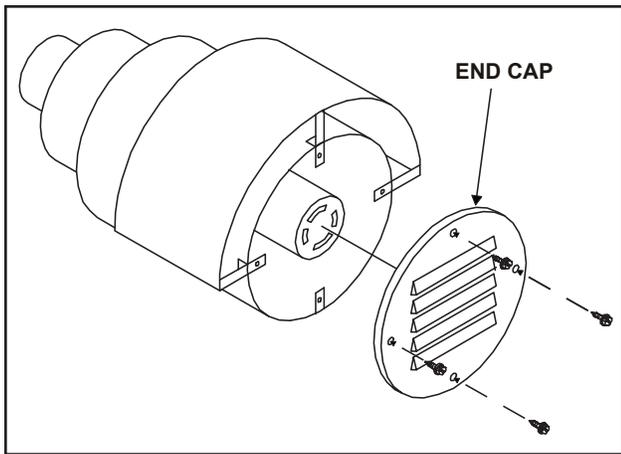
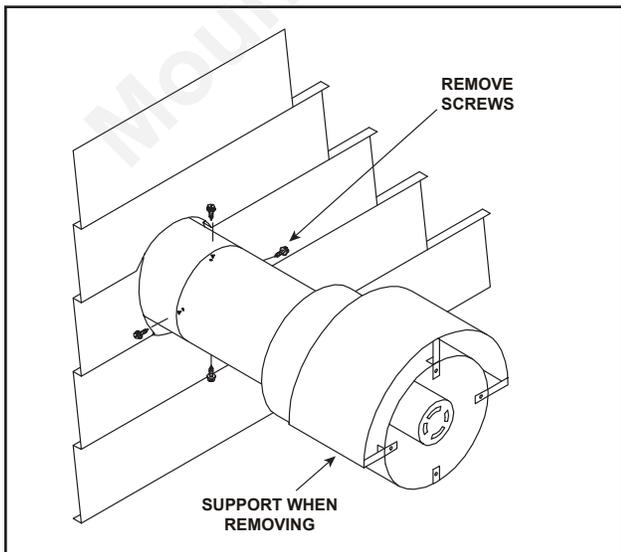

Figure 10.
Figure 11.
- Turn power to off. Remove end cap by removing the four (4) sheetmetal screws. See Figure 10.
- Loosen and remove the nut for the right angle connector and carefully pull back the cable to remove the four (4) wires from the power vent assembly.
- With the cable loosened from the power vent assembly, remove the sheetmetal screws used to secure the power vent assembly in place. Firmly support the assembly to prevent the unit from falling after the sheetmetal screws have been removed. See Figure 11.